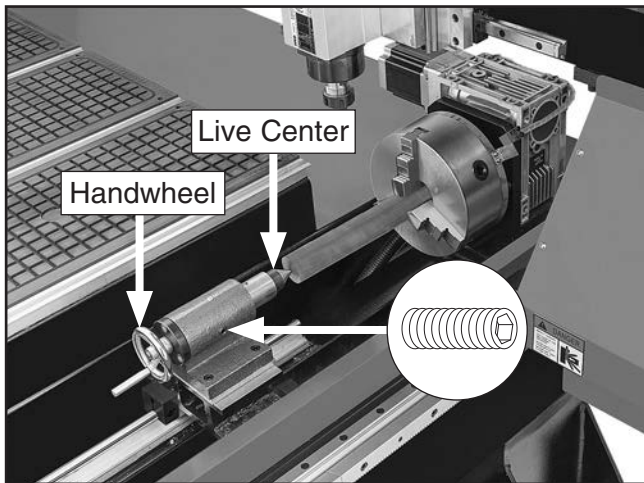

Figure 56. Tailstock positioned to support workpiece.
1. Loosen tailstock set screw and rotate handwheel to position live center towards or away from workpiece (see **Figure 56**).
2. Tighten tailstock set screw to secure live center position (see **Figure 56**).